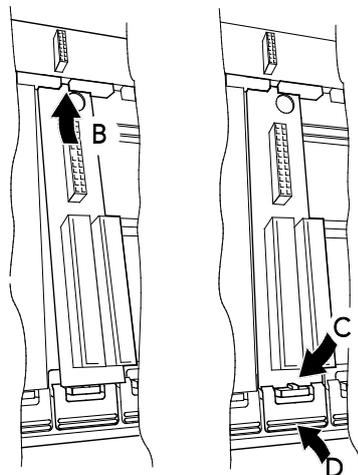

Figure 1-4: Terminal Unit installation/removal
2. Insert the tag at the top of the terminal unit printed circuit board into the relevant slot in the Base Unit (action 'B' in Figure 1-4.)